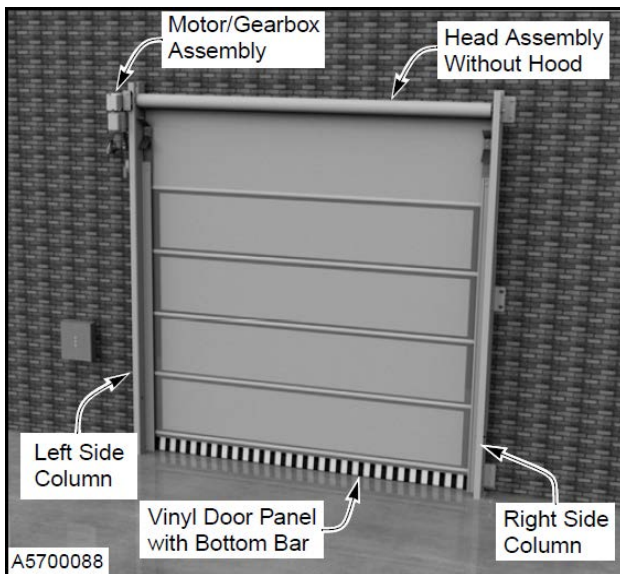

Figure 70
**NOTE:** Your **DOOR SERIAL NUMBER** information can be found on the control box/motor assembly, side columns, hood, and drum assy. (See Figure 70.)